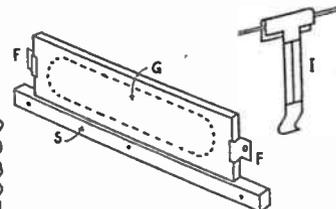

Fig. 5—Dial fixture
A few feet of 1/2 in. stripwood will now be needed. This is nailed to the rear edges of the sides, as in horizontal section at (D), in Fig. 5. Cut the plywood for the back of the wardrobe to fit between strips (D), as in detail sketch. At the top of the side nail half-round moulding to hide the edges of the plywood top, as detailed at (E). The front
The dial should be supported on a strip of wood glued or pinned beneath the dial as shown in Fig. 5 (S). Metal clips (E) can easily be cut out and bent to hold the dial firmly.
The pointer is made from thin aluminium or tin as shown in Fig. 5 (I). Gummed white paper is stuck round the stem and a vertical line is drawn with Indian ink. The top of the pointer is nipped with pliers to fix it to the cord.